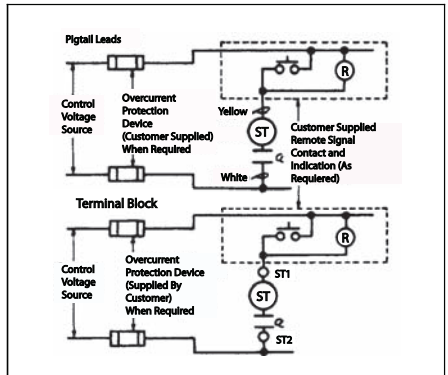

Fig. 2-8. Shunt Trip Connection Diagram.
- 2-10. Place labels supplied with kit on circuit breaker. (See Fig. 2-8.)
2-13. Connect shunt trip as required (see Fig. 2-8).